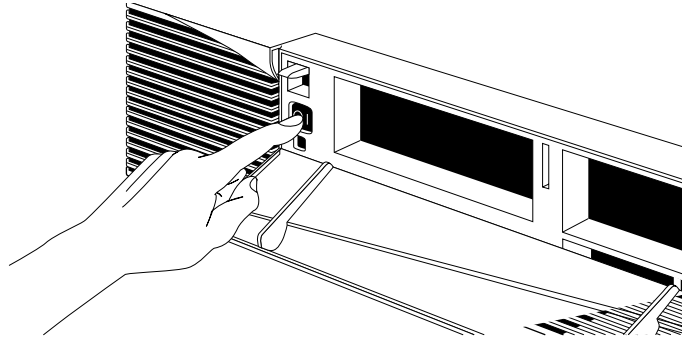

Figure 2-33 Pressing and Releasing the Power Switch
2. Press and release the power switch, as shown in Figure 2-33.